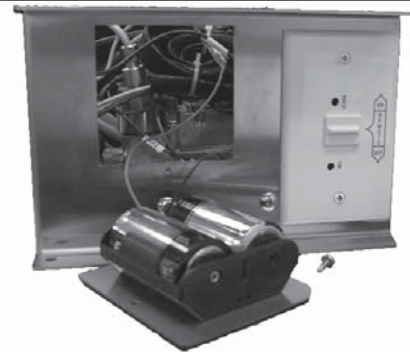

Fig. 11-4
To access the "D" battery pack, unscrew the access plate on the left side of the control panel. Only unscrew the large retaining screw. Grip the top half of the access plate and pull it out to expose the "D" battery pack (Fig. 11-4). Replace the old batteries with two (2) new "D" batteries. Return the access plate into the control panel. Screw in the large retaining screw.